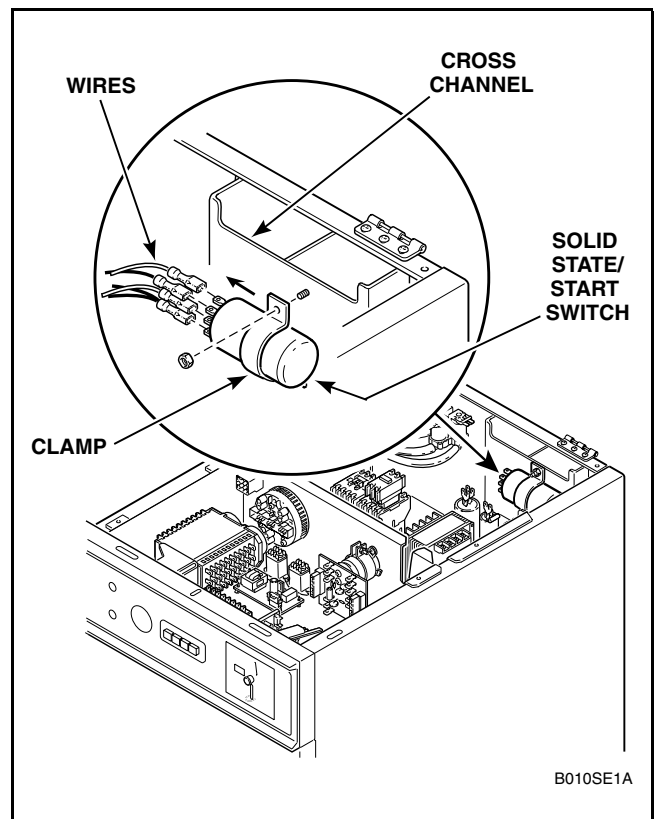

Figure 11
- Remove nut holding clamp to cross channel, refer to *Figure 11*.